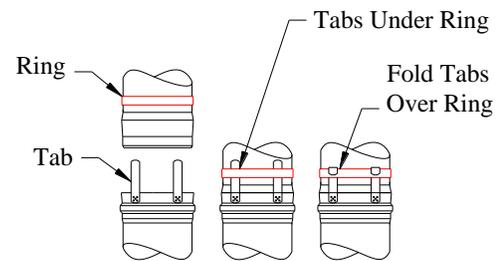

Fig 5. (Ring and Tab Connection)
3. Ring and Tab Joint Assembly (See Fig. 5).